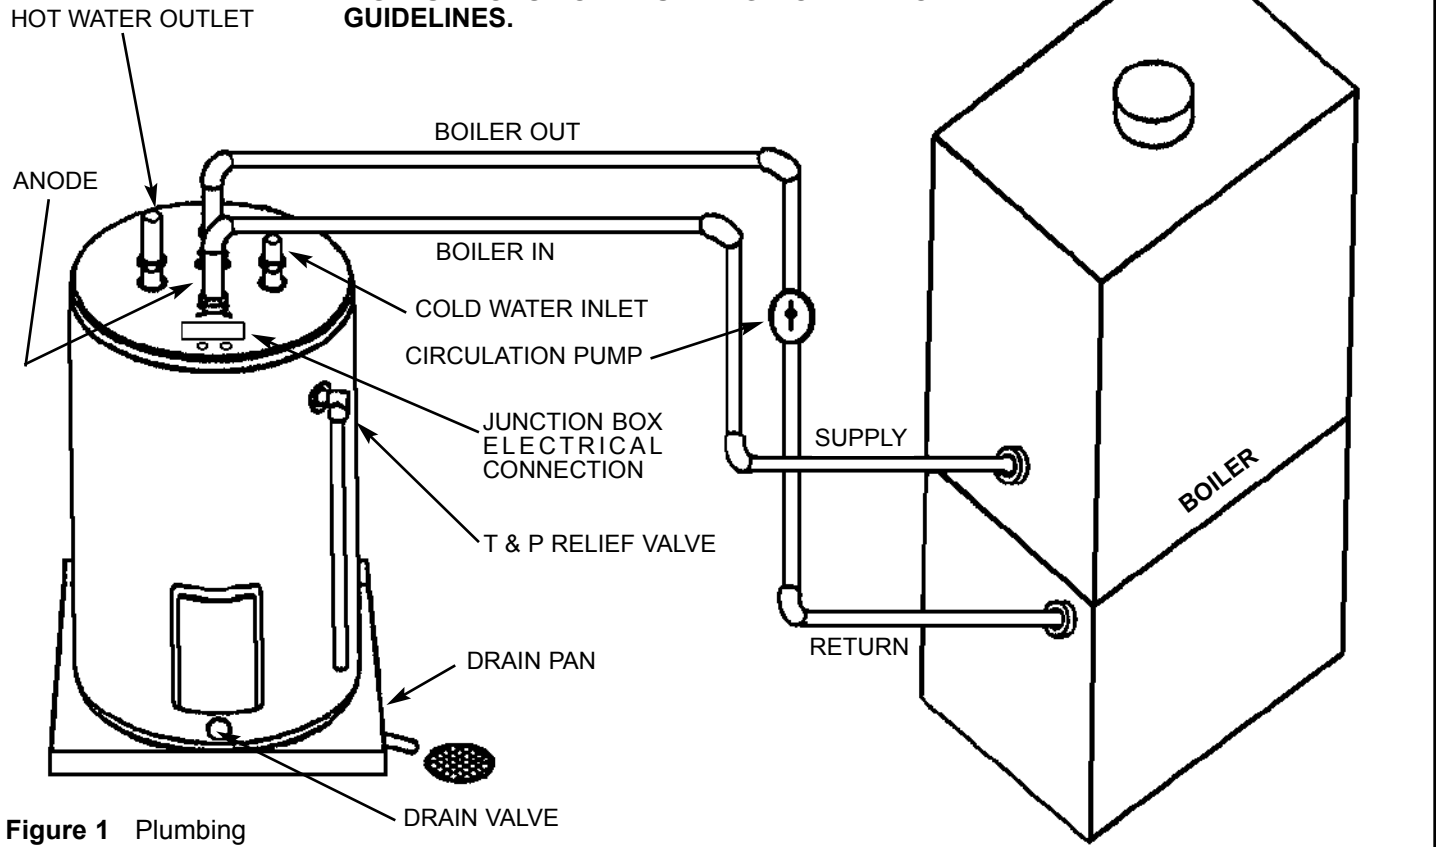

Figure 1 Plumbing
3. A certified relief valve must be installed as shown in Figure 1.
6. The two threaded pipe nipples which are supplied with the heater should be attached to the "Boiler In" and "Boiler Out" connections. Connect the "Boiler In" fitting of the heater to the "supply" fitting of the Boiler and "Boiler Out" fitting of the heater to "return" fitting of the Boiler. A suitable circulator pump should be placed between "Boiler Out" at the heater and "Return" at the water heater. See Figure 1.